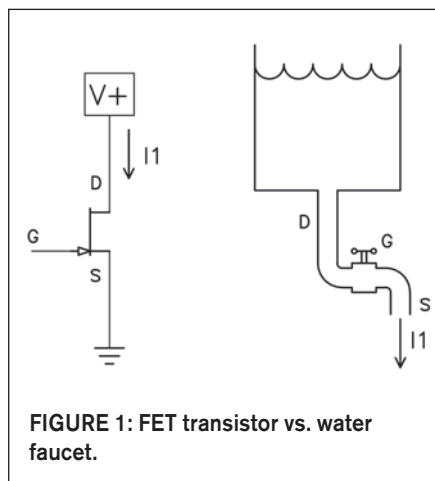

FIGURE 1: FET transistor vs. water faucet.
Figure 1 shows an N channel FET, a quantum mechanical black box with three connections. This device is meant to function as a valve, a little bit like a water faucet. In this illustration, the drain (D) of the FET is attached to an electrical power supply, analogous to the pressurized water supply on the other side of the faucet. You can imagine the pipe as wire, and the tank of water as a battery or even a charged-up capacitor.